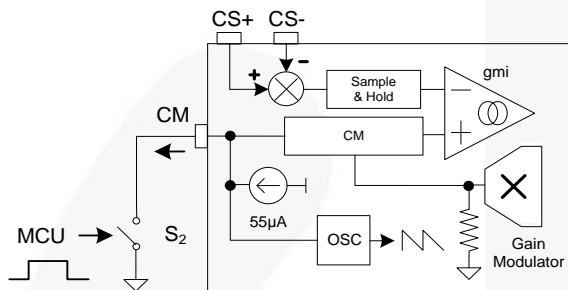
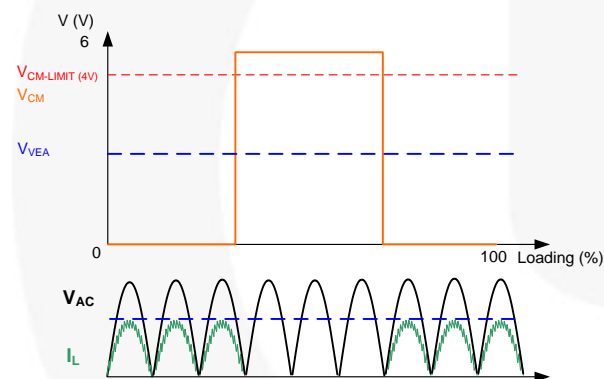

Figure 14. Channel Management by MCU
Figure 15. Channel Management by MCU
To disable the Channel Management (CM) function and control the channels with an external signal from the MCU, the configuration is shown in Figure 14. If $V_{CM} > 4\text{ V}$, the channel is disabled. To enable the channel, V_{CM} must be 0 V, as Figure 15 shows.